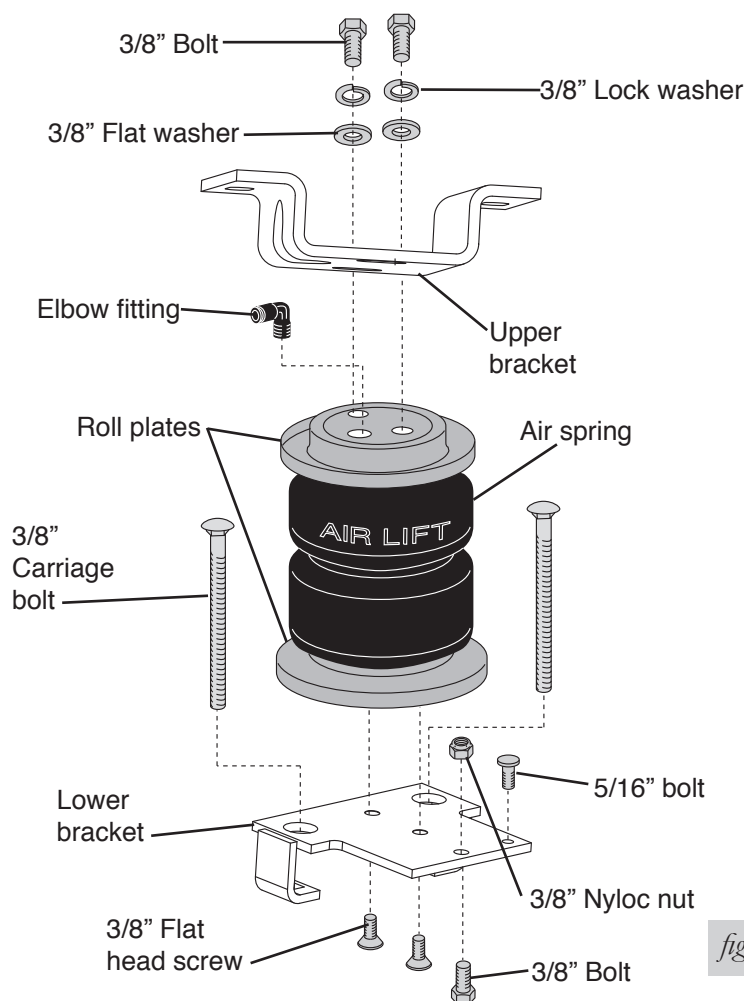
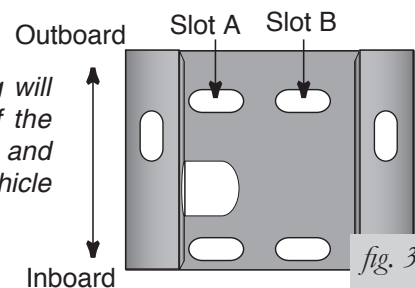

fig. 2
fig. 3
1. Set a roll plate (D) on both ends of the air spring (A). The radiused (rounded) edge of the roll plate will be towards the air spring, enabling the air spring to be seated in both roll plates (fig. 2).
2. Install a 90° elbow fitting (E) to the top of the air spring. Tighten finger tight plus 1 and ½ turns. Be careful to only tighten on the metal hex nut. Do not over tighten (fig. 2).
3. Install the upper bracket (B) onto the bellow assembly. Use slot "A" when installing on the driver's side and use slot "B" when installing on the passenger's side. Attach using two 3/8" bolts (G), lock washers (K), and flat washers (J). Leave the bolts loose at this time (fig. 2 and fig. 3).
4. **Driver's Side Only:** Insert a 5/16" bolt (O) into the small hole on the lower bracket (C) before attaching the lower bracket to the air spring assembly (fig. 2).
5. **2500 HD Models Only:** Install a 3/8" bolt (U) and lock nut (L) through the hole in the lower bracket (fig. 2) with the head of the bolt facing down. Tighten securely.
6. Insert two 3/8" carriage bolts (I) through the large holes and into the square holes of the legs in the lower bracket (fig. 2).
7. Attach the lower bracket (C) to the bottom of the bellow assembly using two 3/8" flat head screws (P). Tighten securely.